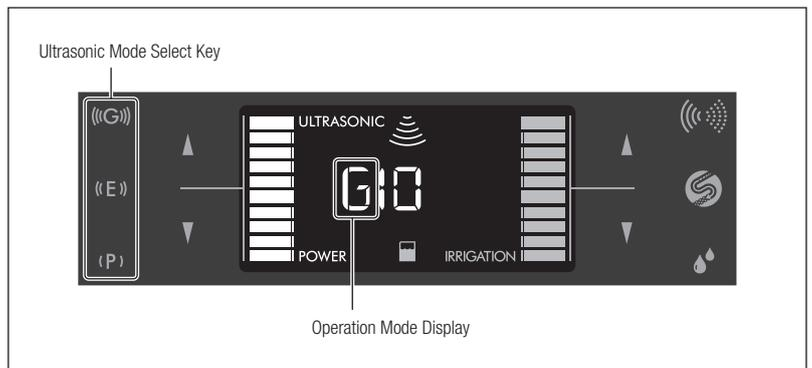

Fig. 20
- 1) Touch the Ultrasonic Mode Select Key to select the Mode. The selected Mode is displayed on the LCD Panel as P/E/G (Fig. 20).